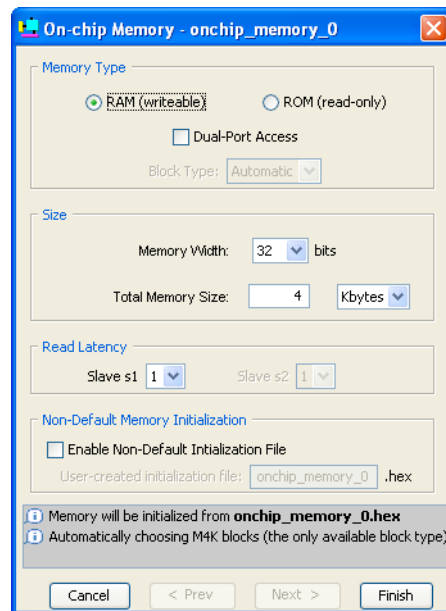

Figure 8. Define the on-chip memory.
- In the **On-Chip Memory Configuration Wizard** window, shown in Figure 8, set the memory width to 32 bits and the total memory size to 4 Kbytes